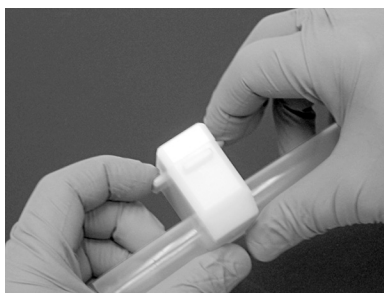

Figure 2.
4. Raise cutter blade into place by sliding tabs toward tubing until audible click is heard (Figure 2).